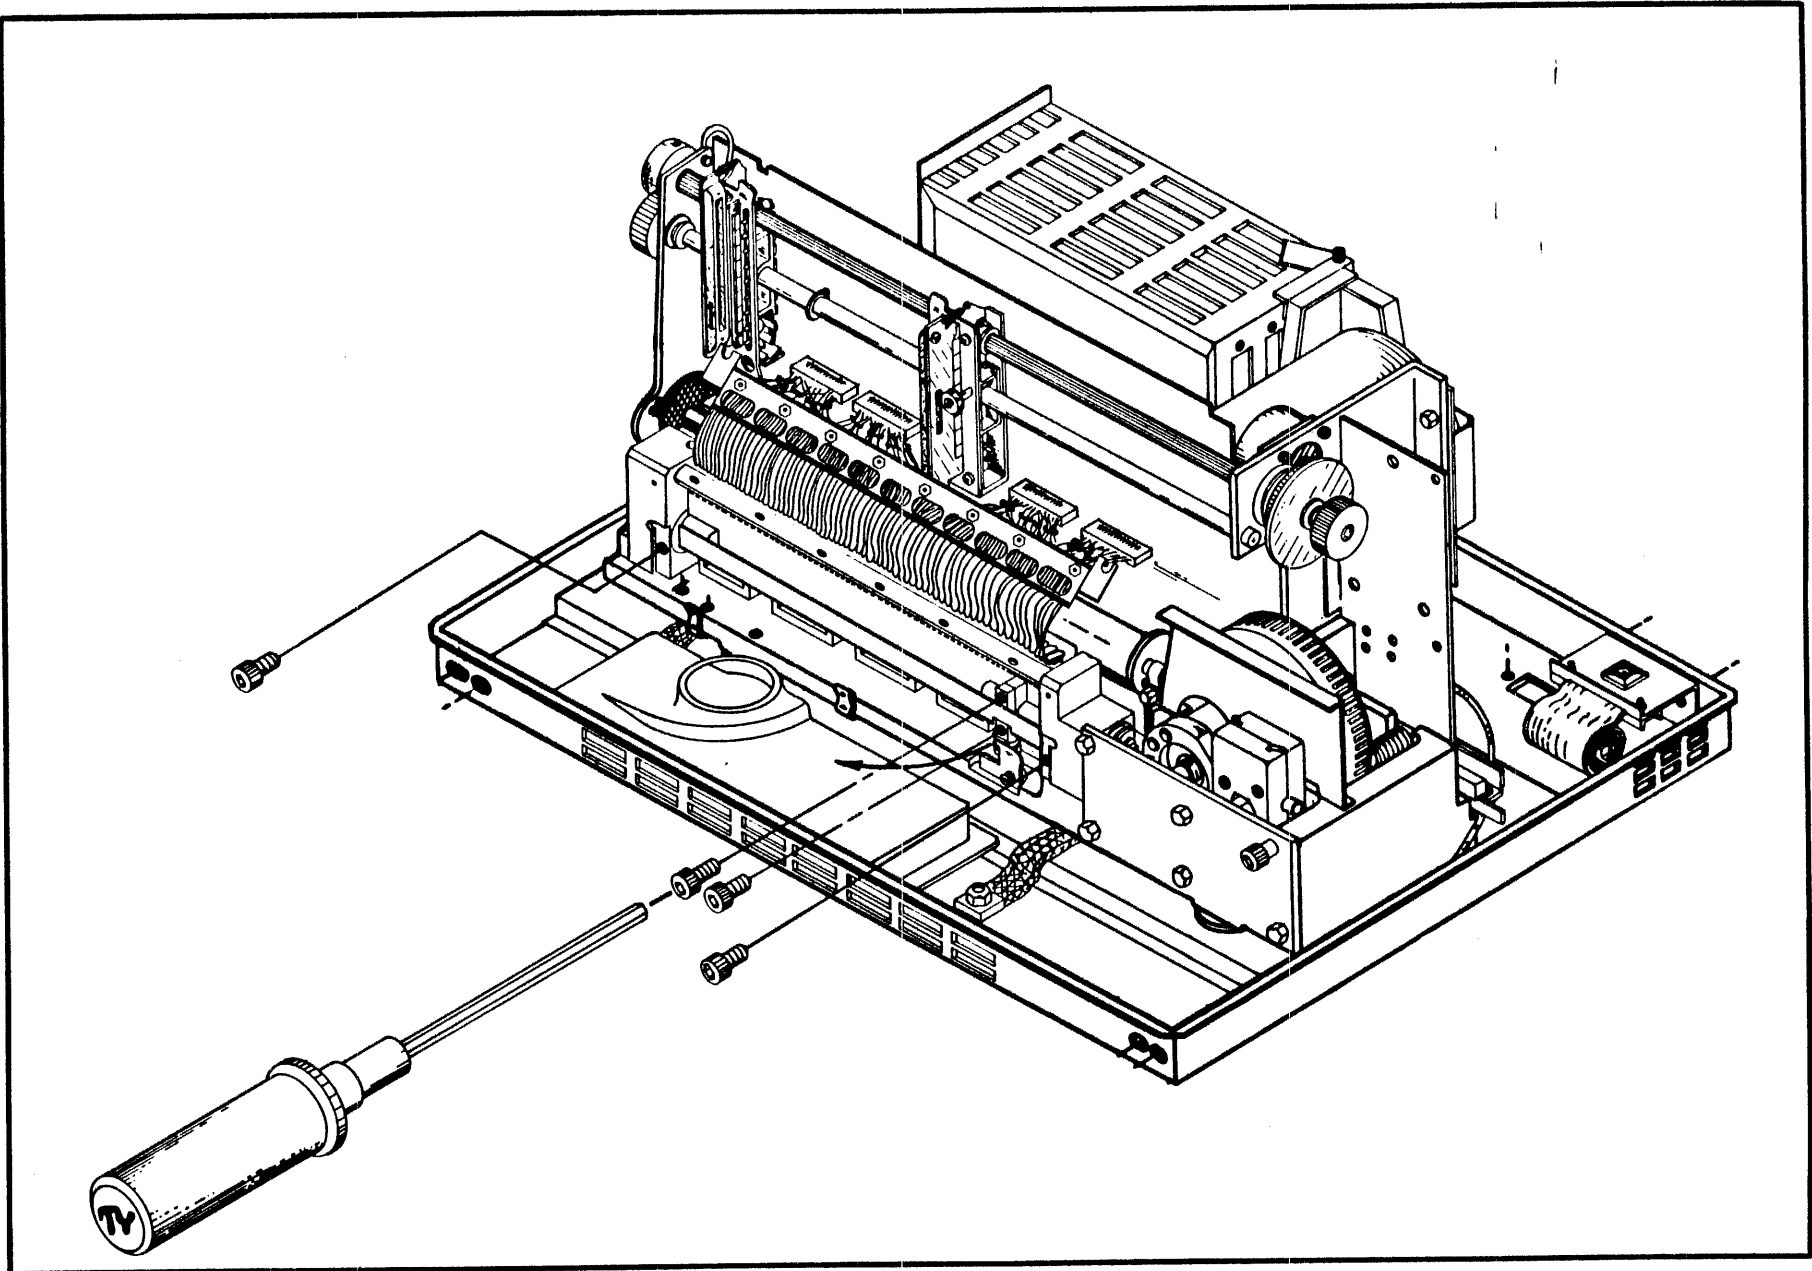

Figure 86 Removing the Antirotation Arm
- d. Loosen the two 5/32 inch Allen head screws that retain the wire comb bracket (**Figure 86**); then raise the comb bracket to free it from the screws.